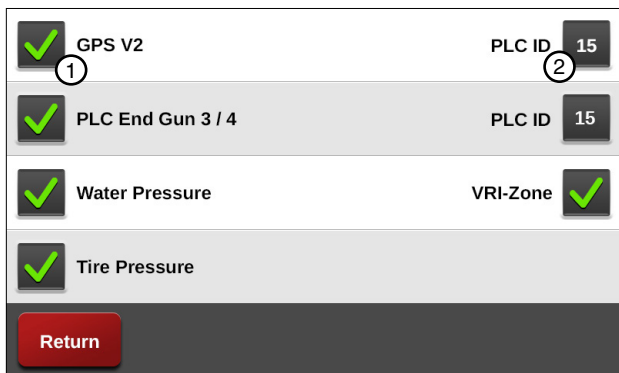

Figure 50-2 PLC Setup Screen
3. Push the **PLC Setup** button to display the PLC Setup screen. Refer to Figure 50-2.